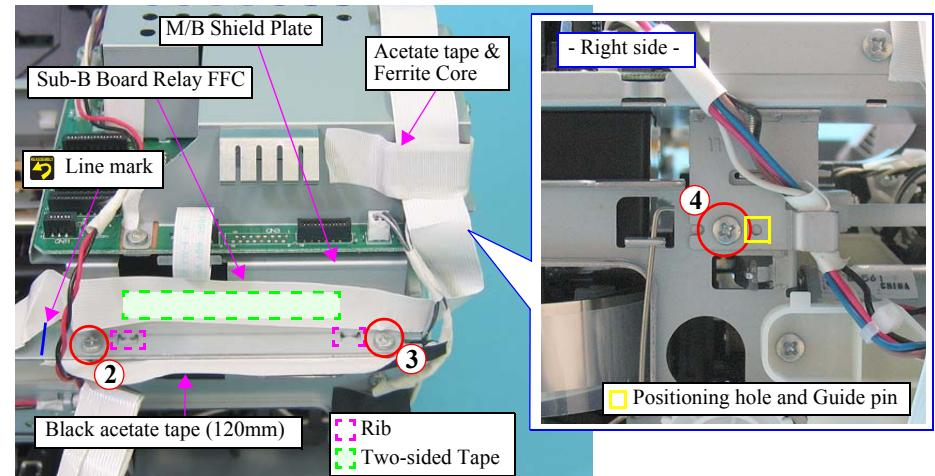
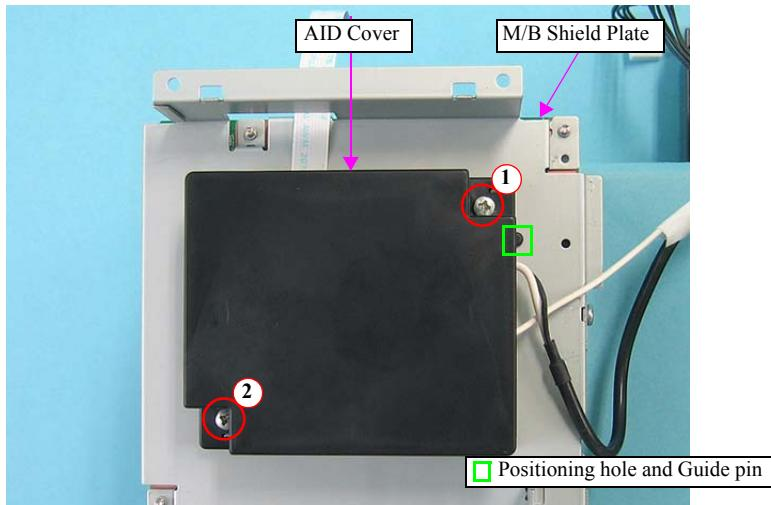

Figure 4-54. Removing the AID Board (2)
Figure 4-55. Removing the AID Board (3)
- Tighten the screws in the order indicated in Figure 4-54 and Figure 4-55.
- When attaching the Black acetate tape (120mm) shown in Figure 4-54, align the left end with the marking, and cover the heads and shafts of (2)/(3) screws.